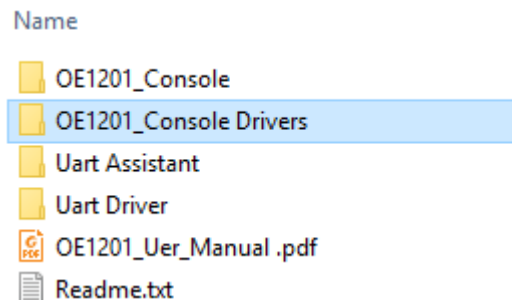
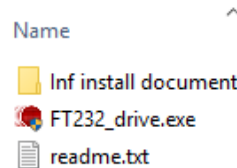
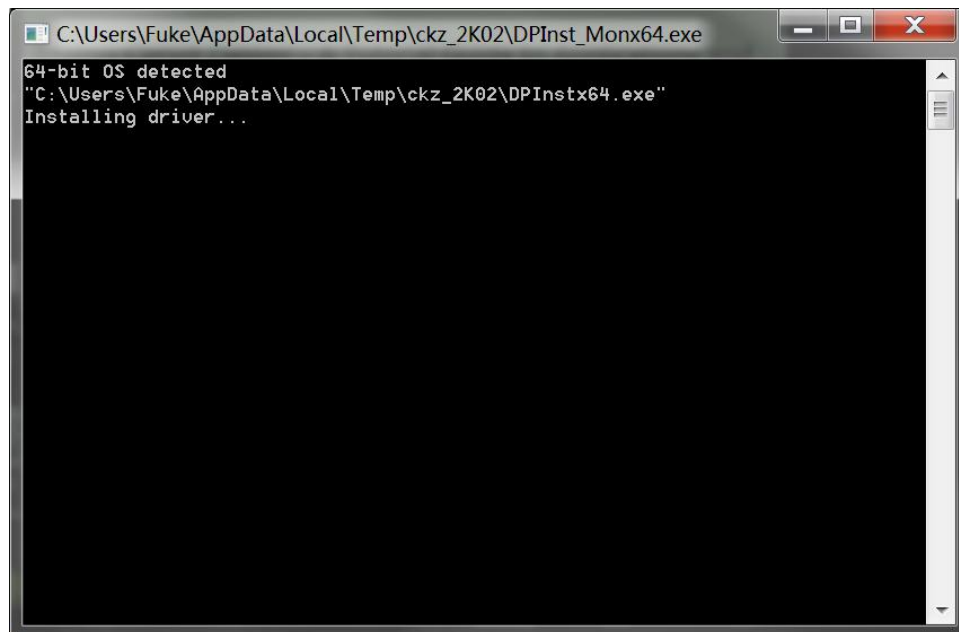
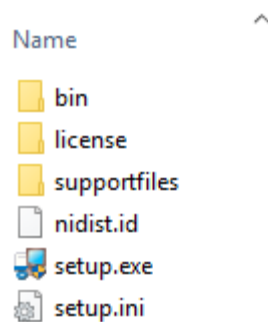

Fig.27 Software files.
Fig.28 “Uart Driver” files
Fig.29 FT232 Driver Installing Interface
Fig.31 "OE1201\_Console Drivers" File
The required software is provided with the CD disk as below in Fig 27.
1) Double-click “FT232\_drive.exe” in Fig.28 in the fourth file “Uart Driver” in Fig.27 and then you can see the Fig.29, which shows the installation is running.
- 1) You need to open the first file "OE1201\_Console Drivers" in Fig.27 and start to install just as shown in Fig 31.
- 1) Open the second file “OE1201\_Console\_EN” in Fig. 27.